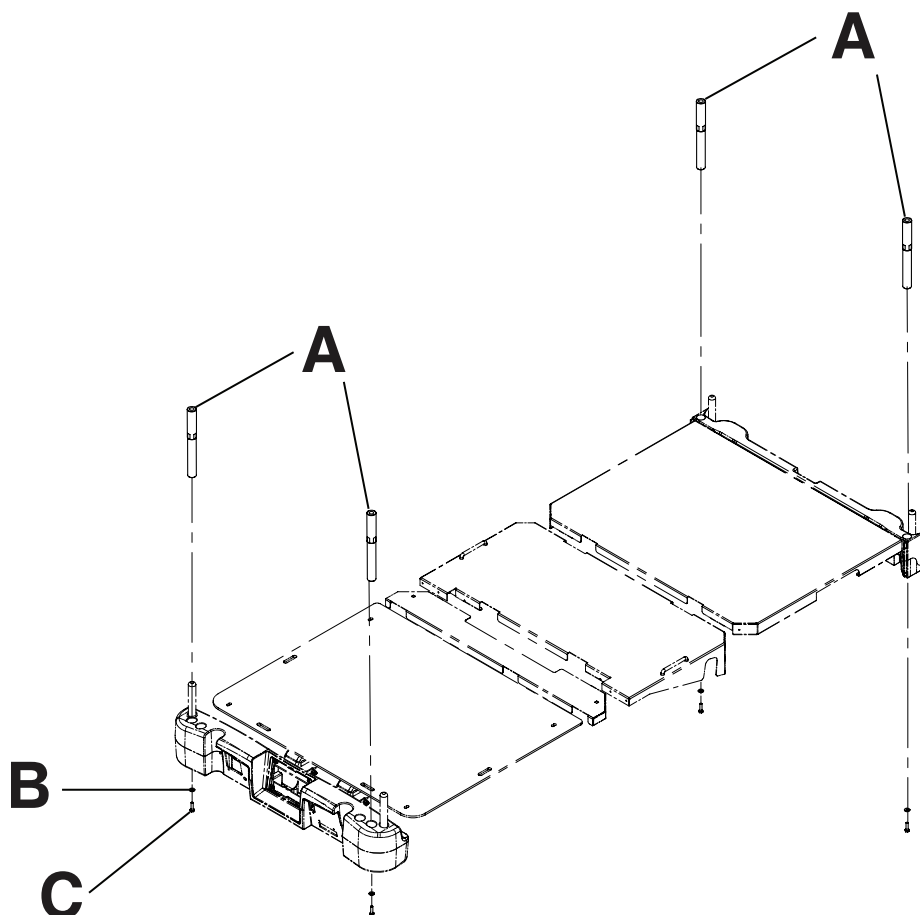

Figure 128: Traction sleeves
1. Attach the traction sleeves into the sockets at the head end and foot end of the product (A) (Figure 128 on page 107).
2. Using a 7/16 in. combination wrench, attach one washer (B) and one bolt (C) to secure the traction sleeve in the socket (Figure 128 on page 107).